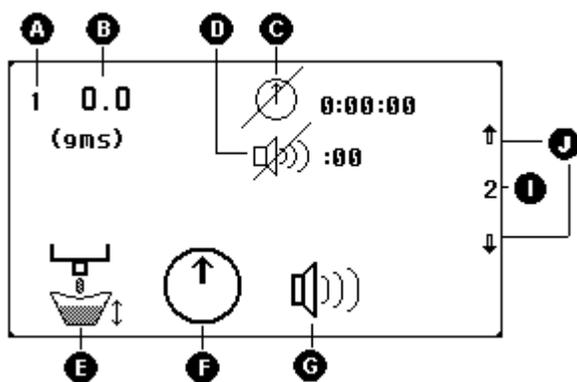

Figure 15: Shot Size and Purge Timer Screen (M2)
- C Purge Timer Setting (Turned OFF in Figure 15).